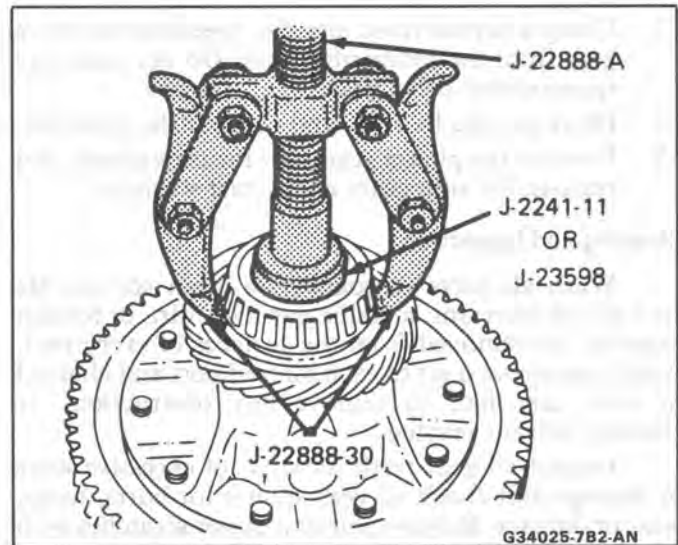

Fig. 26 Differential Side Bearings
1. Remove the side bearing using J 22888 with puller leg kit J 22888-30 and pilot J 2241-11 (Fig. 26).